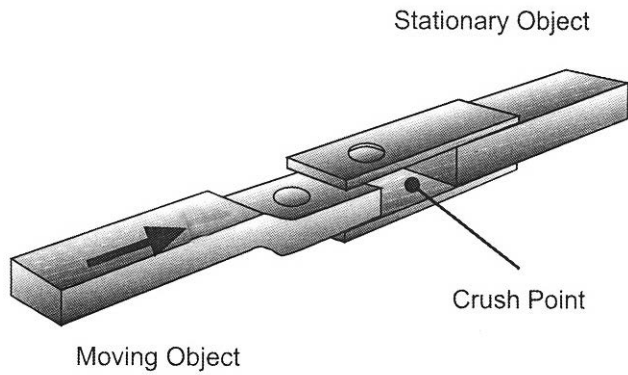

Figure 2. Hitches present typical crush points.
- **Crush points** — when two objects move toward each other (Figure 2) or one object moves toward a stationary object. Examples of crush-point hazards are the raising and lowering equipment with a three-point hitch, components that are moved by hydraulic cylinders, and the areas between the tractor and machinery when hitching or turning.